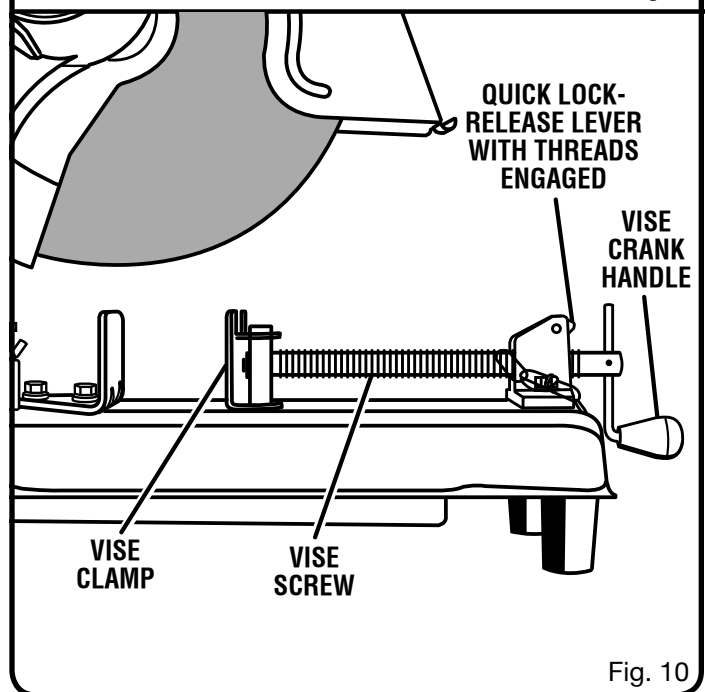

Fig. 10
See Figure 10.
- Rotate the quick lock-release lever forward and push down as shown in figure 10 to engage its threads with the vise screw.